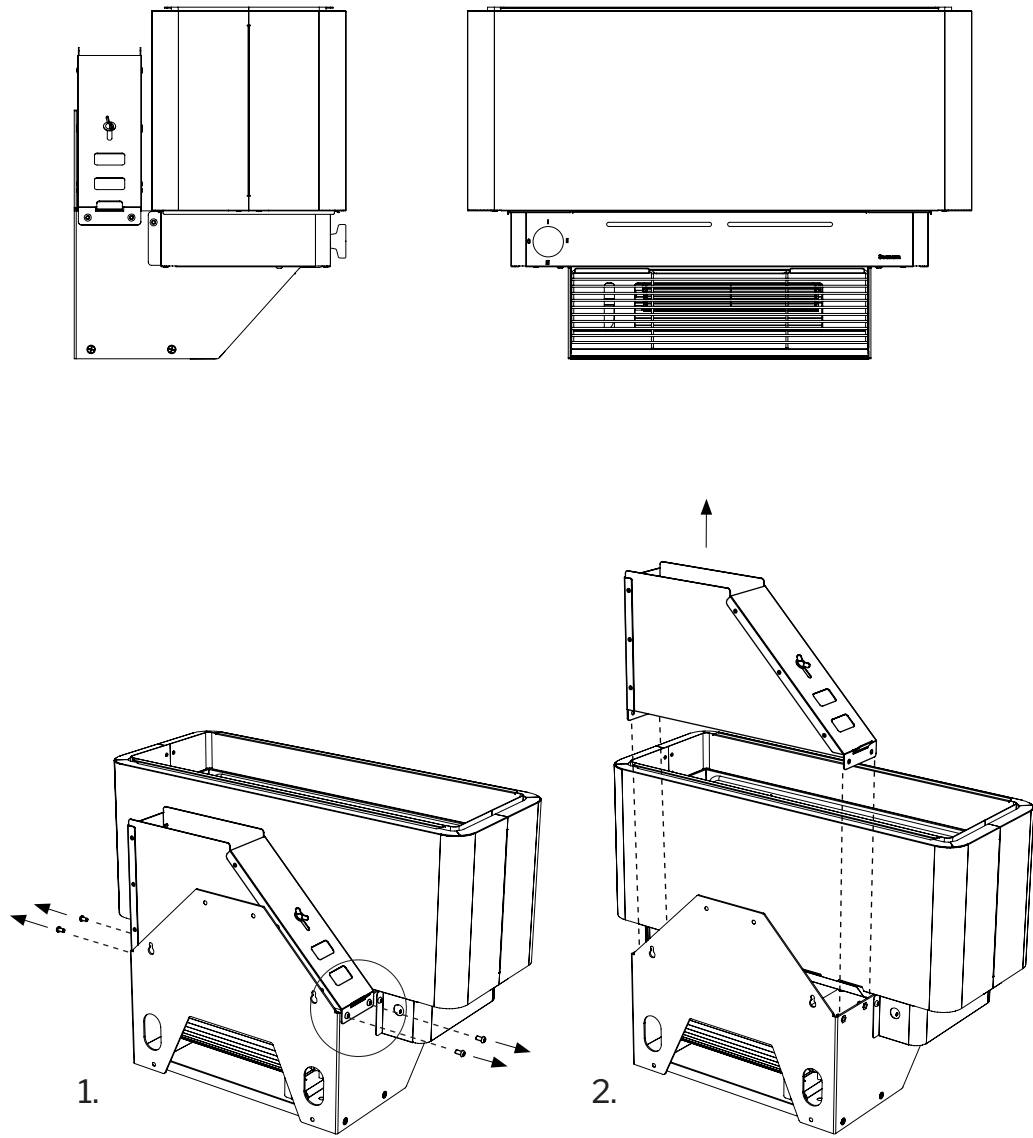

Figure 3.2: Removing the flue socket
See Figures 3.2 to 3.8.
- 3.2.1.** Loosen the four fixing screws holding the flue socket and remove the flue socket (**Figure 3.2**).